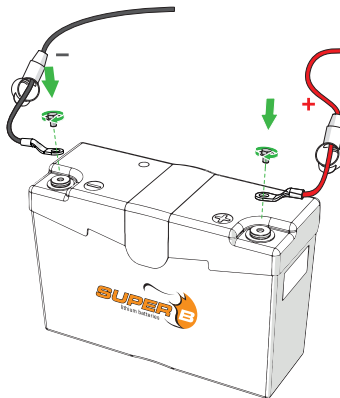

Figure 3. Connecting power cables to the Li-ion battery.
1. Connect the load or charger to the (+) terminal of the Li-ion battery (Figure 3).
2. Connect the load or charger to the (-) terminal of the Li-ion battery (Figure 3).